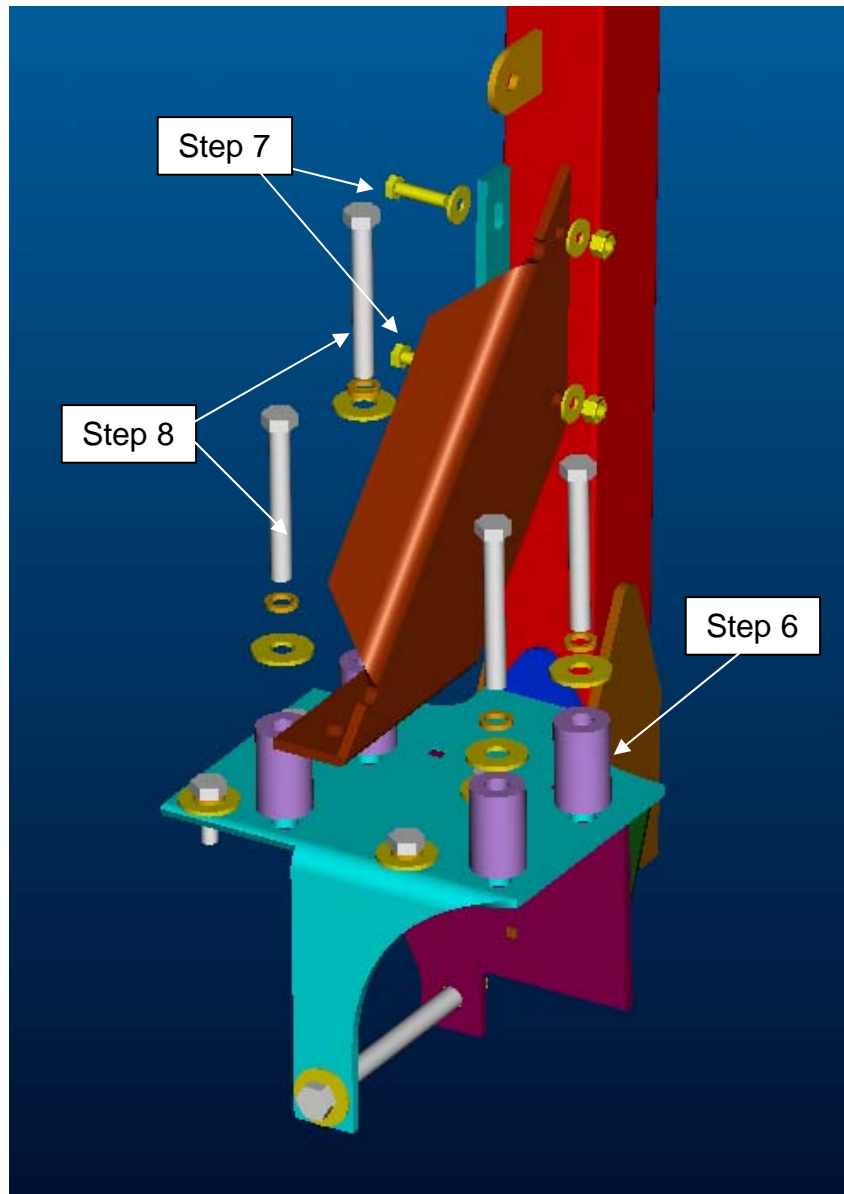

Figure 2
- Place (4) 9/16 x 2" bushings (supplied by Fredricks equipment part # FB-100) on top of rollbar mounting plate over non-used holes then place fender on bushings (do not use rubber bushings). Insert (2) outside M12 x 95mm long, (2) 1/2" lock washer, and (2) 1/2" flat washer on each leg. See Figure 2.
8. Install (2) remaining M12 X 95mm long, (2) ½" lock washers, (2) ½" flat washers through gusset, fender, bushing, mounting plate, and into axle housing on each legs. See Figure 2.